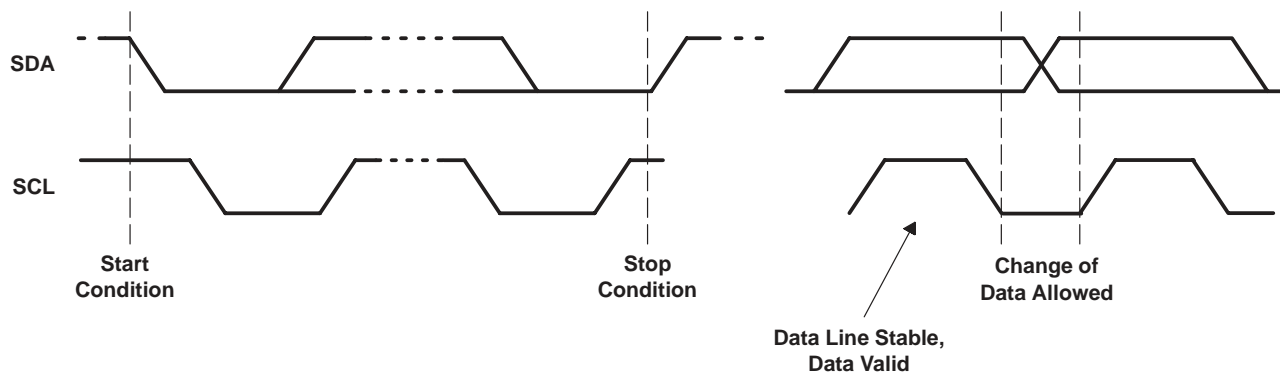

Figure 4. Serial EEPROM Start/Stop Conditions and Bit Transfers
The serial EEPROM interface signals require pullup resistors, and the protocol is defined for the bidirectional transfers. Both SCL and SDA are placed in a high-impedance state and pulled high when the bus is not active. A high-to-low transition of the SDA line defines the start condition (S). A low-to-high transition of SDA while SCL is high is defined as the stop condition (P). One bit is transferred during each clock pulse. The data on the SDA line must remain stable during the high period of the clock pulse, as changes in the data line at this time are interpreted as a control signal. Data is valid and stable during the clock high period. Figure 4 illustrates this protocol.